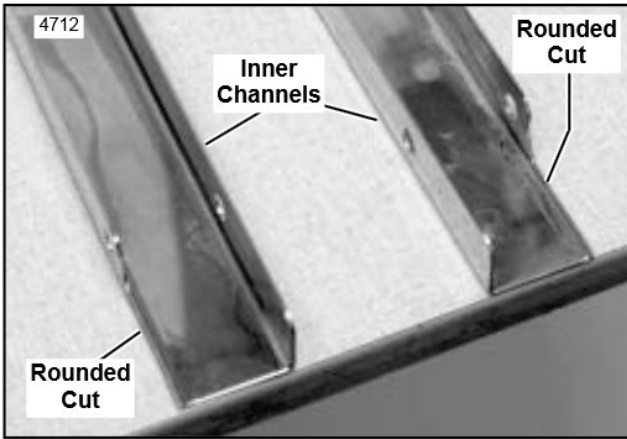

Figure 1. Orient Inner Channels
1. See Figure 1. Locate inner channels by rounded cuts on one end. Lay inner channels side by side on a flat table with the cutout end flush with the edge. Verify that the cutouts face outside in opposite directions.